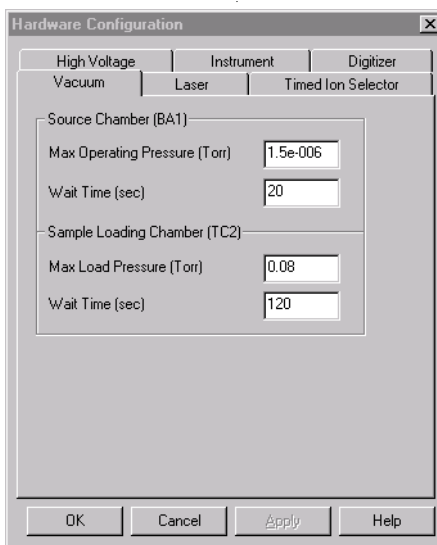

Figure 2-15 Vacuum Configuration
2. Click the **Vacuum** tab to display the Vacuum page (Figure 2-15 on page 2-36).